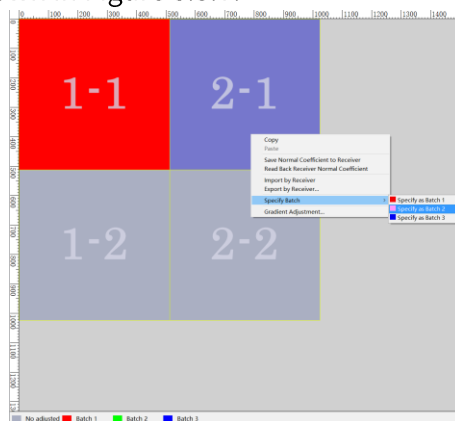

Fig 8.3.7 Specify batch
- Step 2: Close the **Batch Adjustment Settings** dialog box. Then, select a receiver card, right-click and select **Specify Batch** to perform batch designation on the selected card, as shown in Figure 8.3.7.